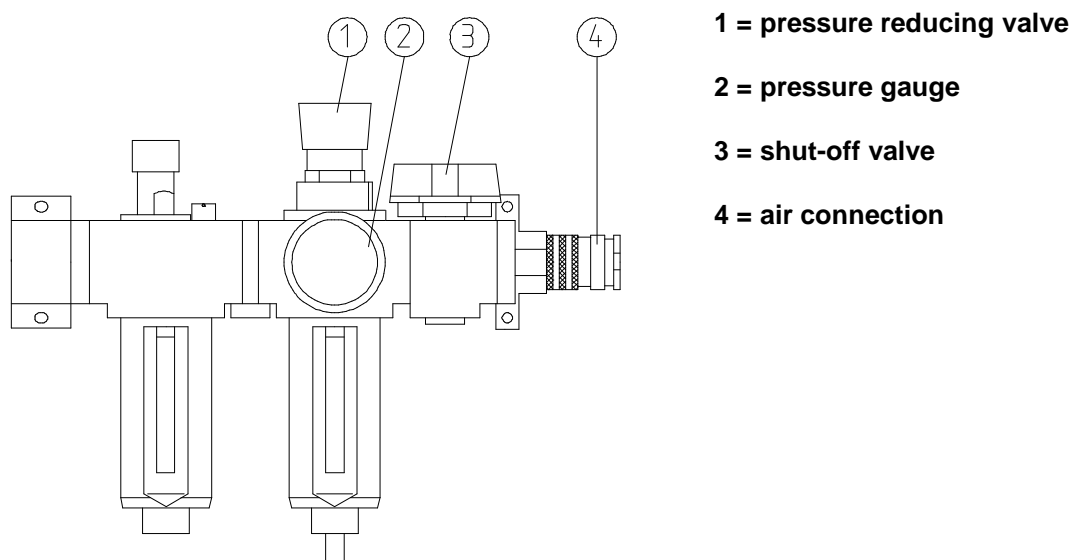

figure 5
- In the case of the SO-30ex, the compressed-air line must be connected up to the machine's compressed-air connection (see figure 5, number 4). Make sure that the shut-off valve (number 3) is turned in the direction of the air flow. Using the pressure reducing valve (number 1), you can set the pressure to 6,2 bar. The pressure set can be read off on the pressure gauge (number 2).